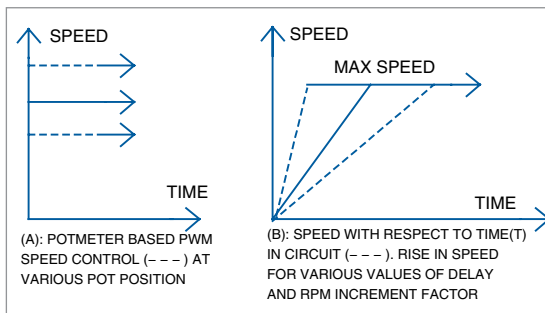

Fig. 9: Graphs representing change in speed of the DC motor
The graph shown in Fig. 9(A) represents the change in speed of the motor with respect to change in position of the potentiometer. Graph in Fig. 9(B) represents the change in speed of